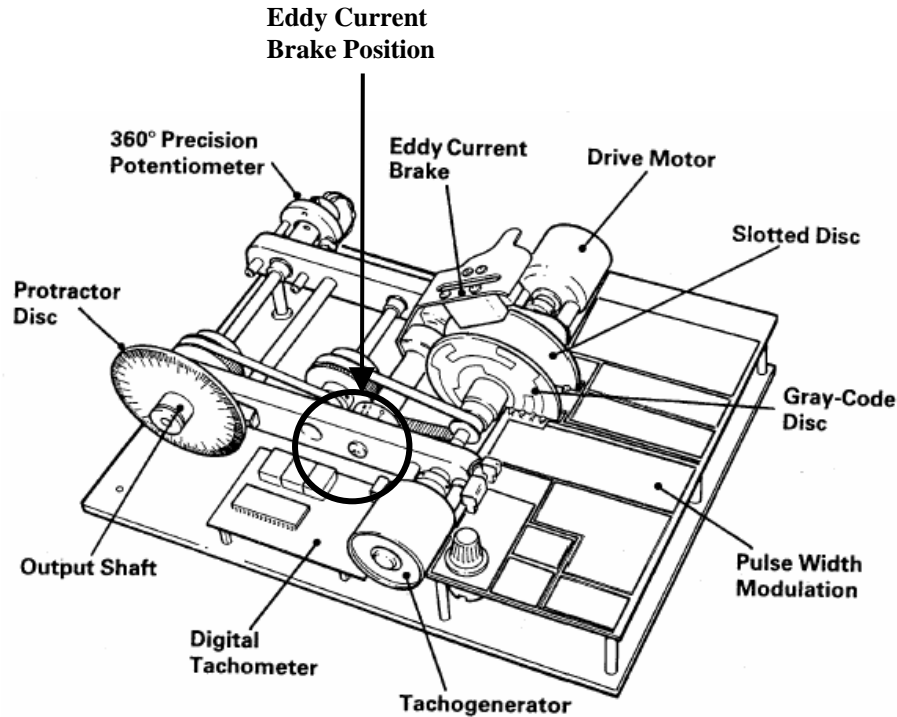

Figure 4. Eddy Current Brake Position Indicator on DC Motor Control Module.
10. Make sure the **Eddy Current Brake** is disengaged. That is, make sure that the Eddy Current Brake Position Indicator (shown in Figure 4) is in the 0 position.